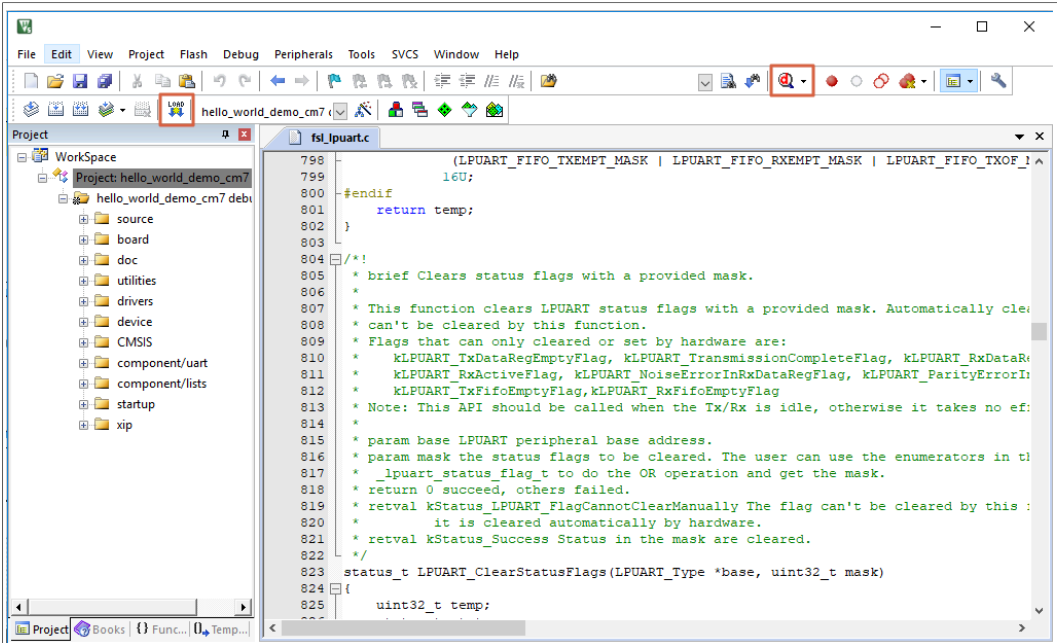

Figure 37. Stop at main() when run debugging
- To debug the application, click **load** or press the F8 key for flexspi target which needs to download the program to flash memory. Then, click the **Start/Stop Debug Session** button, highlighted in red in Figure 37. If using J-Link as the debugger, click **Project option > Debug > Settings > Debug > Port**, and select **SW**.